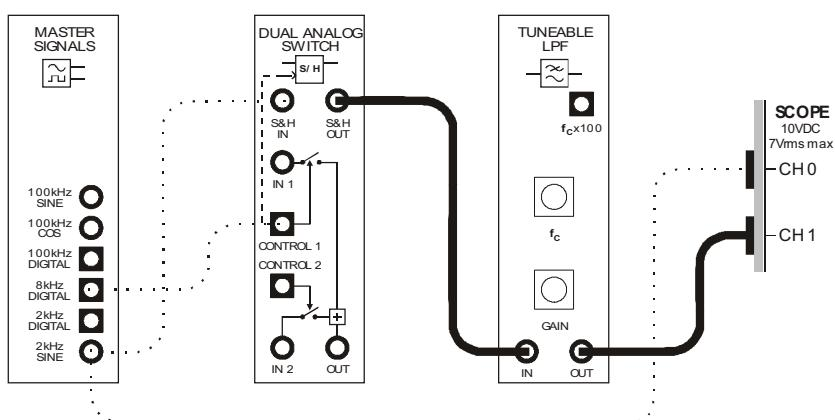
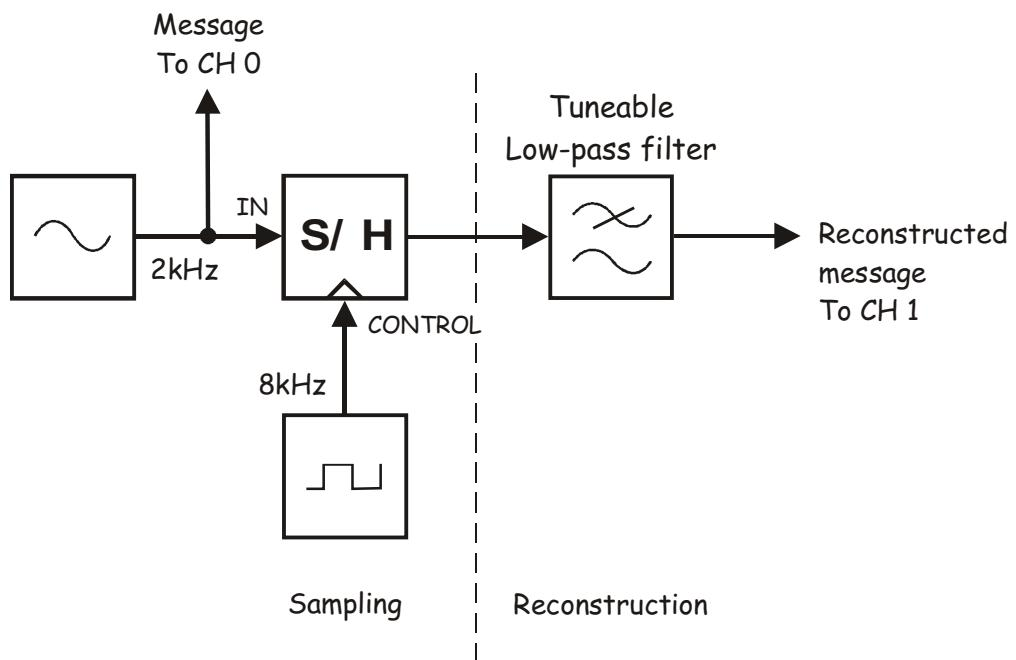

Figure 9
Figure 10
41. Modify the set-up as shown in Figure 9 below.
The set-up in Figure 9 can be represented by the block diagram in Figure 10 below. The Tuneable Low-pass Filter module is used to recover the message. The filter is said to be "tunable" because the point at which frequencies are rejected (called the *cut-off frequency*) is adjustable.